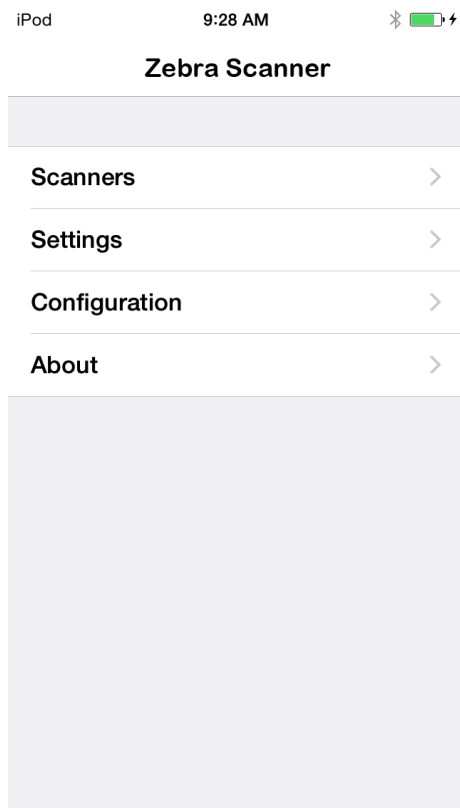

Figure 6-1 *Home Screen*
5. Touch the *Zebra Scanner for iOS* icon () on the device to launch the *Home* screen (Figure 6-1).
To display the *Scanners* screen touch *Scanners* from the *Home* screen (Figure 6-1). The *Scanners* screen displays all scanners paired and connected to the device. Select a device in the list to display the *Active Scanner* screen (see Active Scanner Screen on page 6-5). If no scanners were previously paired/connected, to the device, a connection is required (see Connecting the Device and the Scanner).
2. Touch *Scanners* from the *Home* screen (Figure 6-1). The following screen displays when the *Auto Detection* option is enabled.
To display the *Settings* screen touch *Settings* from the *Home* screen (*Figure 6-1*).
To display the *Scanner Configurations* screen touch *Configuration* from the *Home* screen (*Figure 6-1*).
To display the *About* screen touch *About* from the *Home* screen (Figure 6-1).